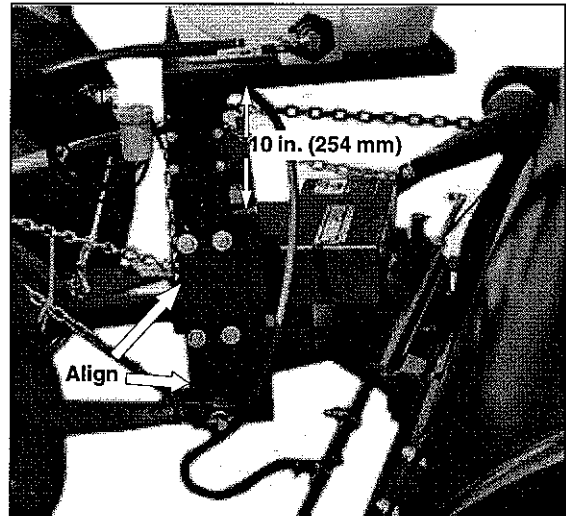

figure 42
- a. Clamp the tank mounting plate to the mounting assembly with a 10 in. (254 mm) distance between the top of the mounting frame and the underside of the tank mounting plate (figure 42). Be sure the front edge of the mounting frame and the front edge of the tank mounting plate are flush (figure 42).